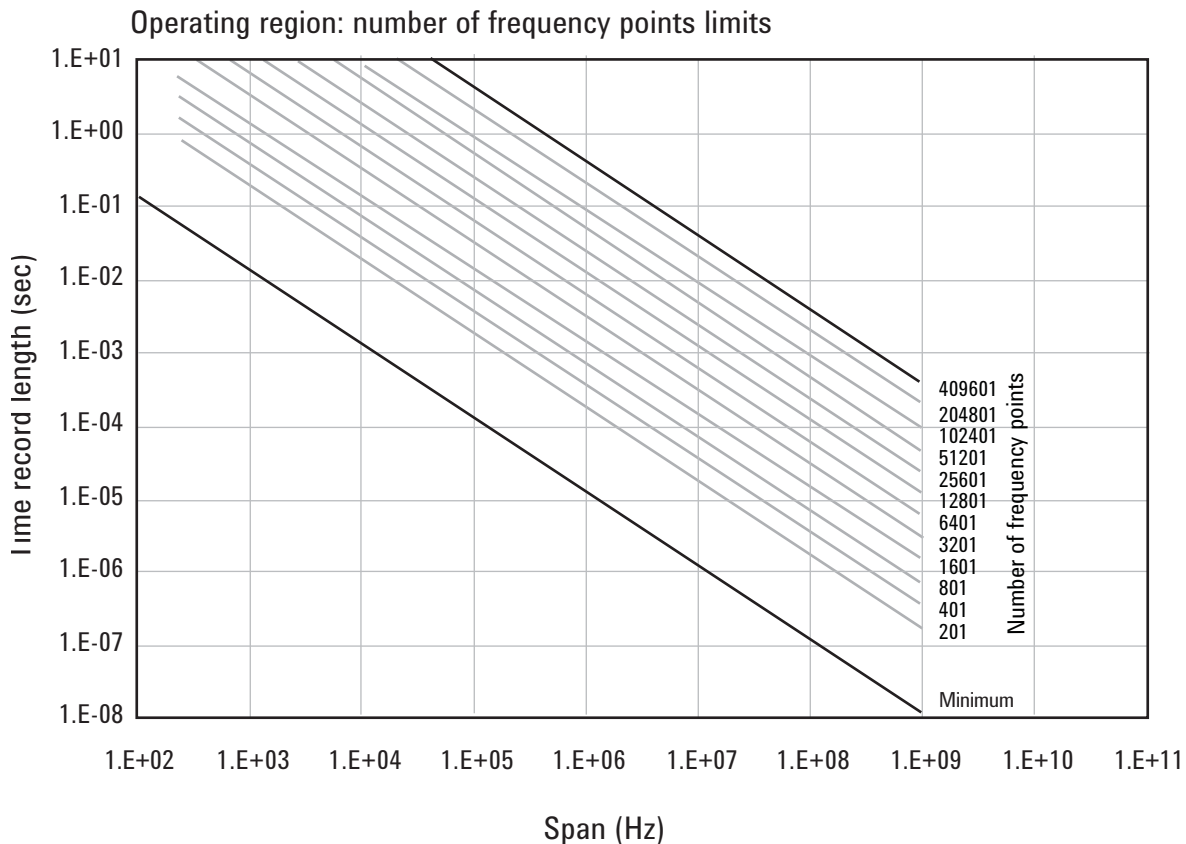

Figure 3. The user-settable parameter, frequency points, begins to determine the boundaries of the time record length and frequency span operating region.
The operating region is described in terms of span and time record length. For a given window type it could just as easily be described in terms of span and RBW. Figure 3 shows the effects of the number of time points the 89600 VSA software is allowed to collect. Because sample spacing is inversely proportional to span, the record length decreases as span increases. Although a family of lines is shown, only two define the operating region at any one time. The lowest line gives the smallest time record length allowed for any given span. The position of this line is determined by minimum number of time points (16) the VSA requires in a time record. The line that defines the upper time record length boundary is positioned by the maximum number of time points the VSA allows in a time record. The maximum number of time points is determined by the Frequency Points setting (**MeasSetup > ResBW > Frequency Points**). The 89600 VSA is constrained to operate in the region between these two lines. Note that the operating lines of Figure 3 are the same for all InfiniiVision Series models.